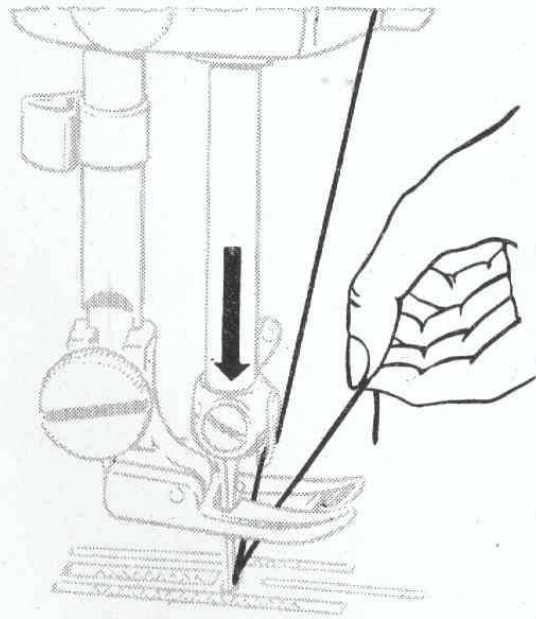

Fig. 30
2. Pull up needle thread and bobbin thread will come with it, as shown in **Figs. 30, 31 and 32.**